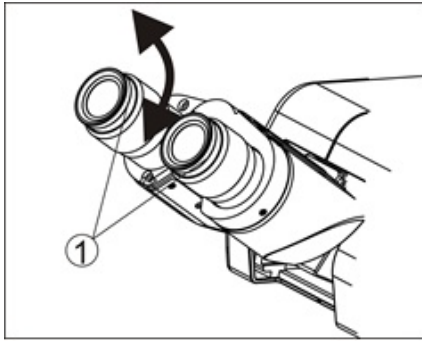

Fig. 20
5.5. Parfocality Adjustment (Fig. 20)